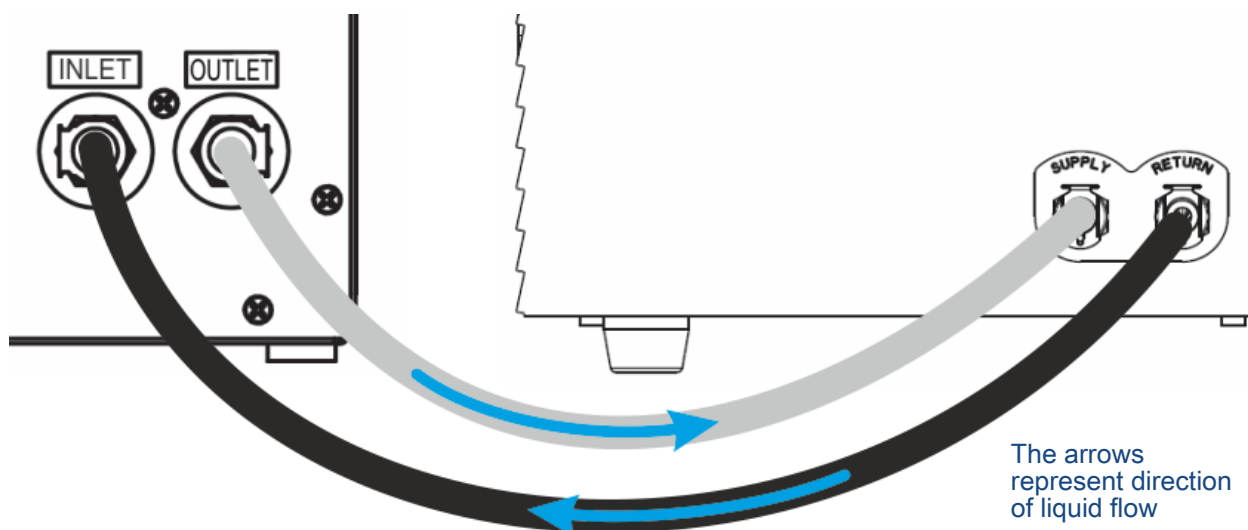

Figure 48: Connections between the integrated cooling module and the external liquid cooling device
- Connect the coolant OUTLET of the liquid supply of the external liquid cooling device to the instrument's SUPPLY port on the back of the integrated cooling module. Use the provided tube. (See figure below and Figure 48).